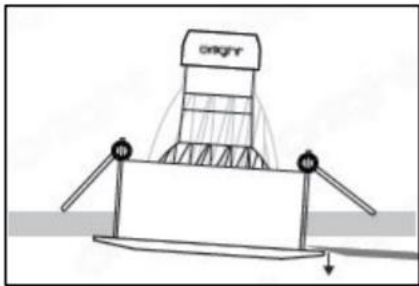

Figure 3.7
- Use a large flat blade tool to lever one side of the fitting away from the ceiling (Refer to figure 3.7)